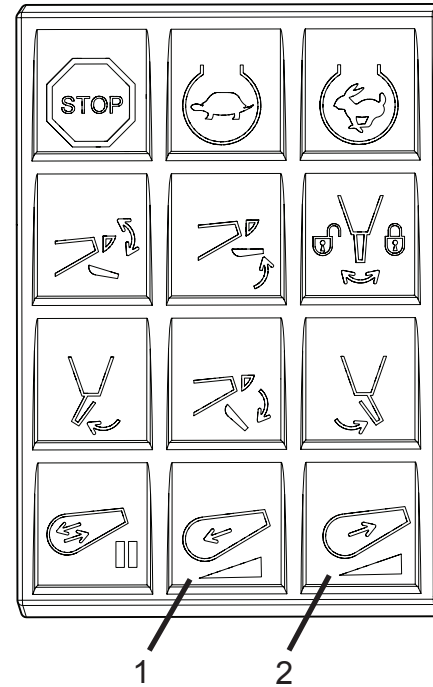

Figure 33
- If in-cab keypad or rear keypad pendant is selected, keep pressing the CHARGE (forward) (Figure 33, Item 1) or DISCHARGE button (backward) (Figure 33, Item 2) until the desired rotation speed is achieved. You may also press and hold the charge or discharge keypad buttons until desired rotation speed is achieved. The key indicators will illuminate only when pressed.